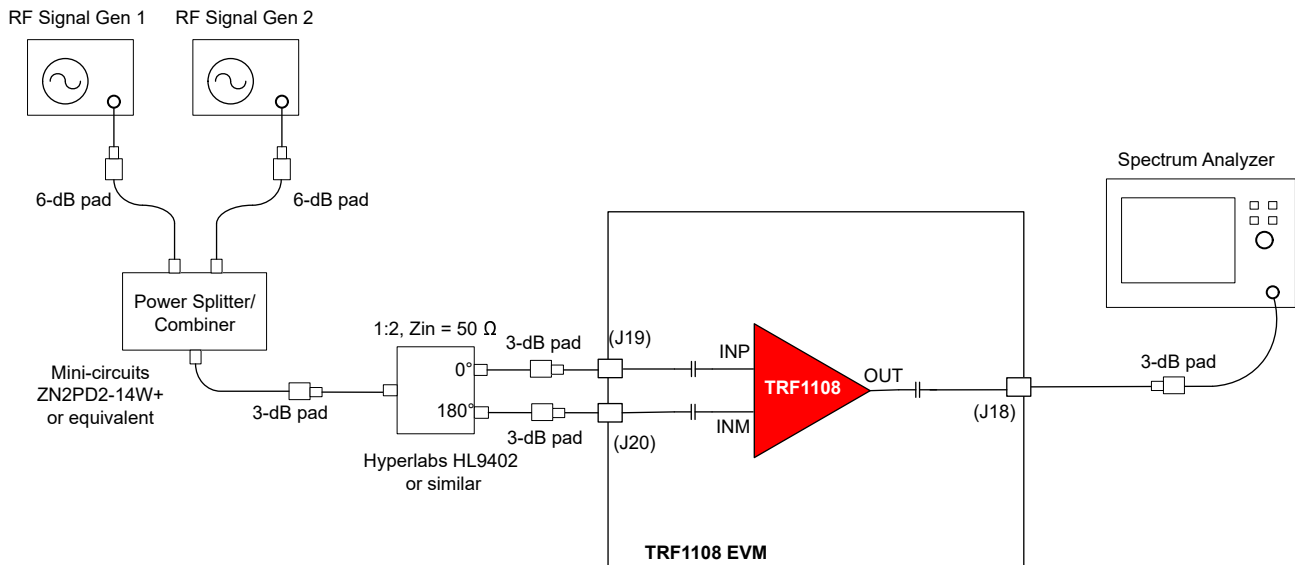

Figure 3-4. OIP3 Test Setup
1. As Figure 3-4 shows, combine two signal generator outputs using an in-phase power splitter and combiner. A 6dB attenuator is recommended at the signal generator outputs to prevent the generators from talking to each other and resulting in signal generator IMD3 spurs.